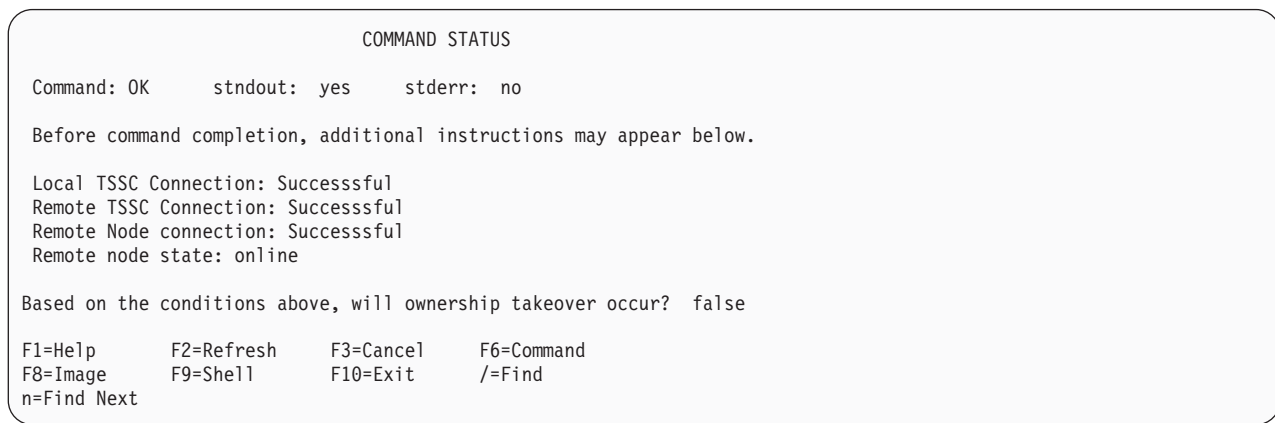

Figure 2-24. Processing AOTM Changes
5. Press **Enter** to start the test, or press **Cancel** to return to application. If you press Enter, you see Figure 2-24.
Notes: In the Figure 2-24 field "Based on the conditions above, will ownership takeover occur?"